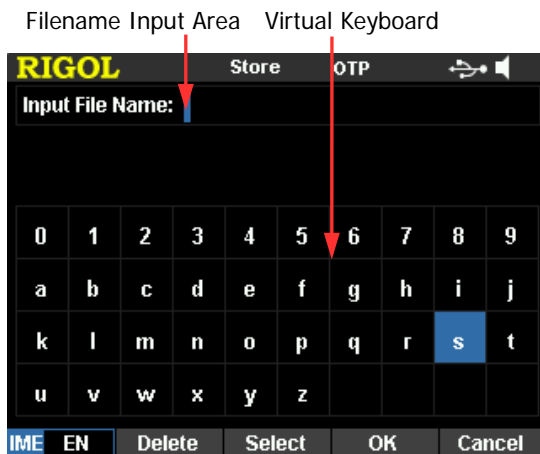
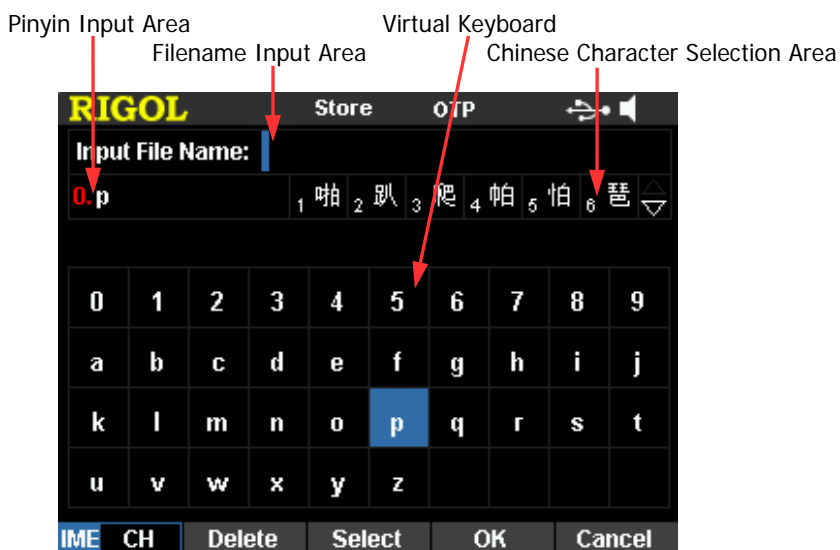

Figure 2-10 Filename Input Interface (English)
Figure 2-11 Filename Input Interface (Chinese)
2. Press **Browser** to switch the cursor to the directory area to select the desired directory. Press **Browser** again to switch the cursor to the file area and select the desired storage directory. Press **Save** to open the filename input interface (Figure 2-10 or Figure 2-11).
Press **IME** to select “CH” or “EN” in the filename input interface (Figure 2-10 or Figure 2-11). Press **.** on the numeric keyboard to switch between English uppercase and lowercase.